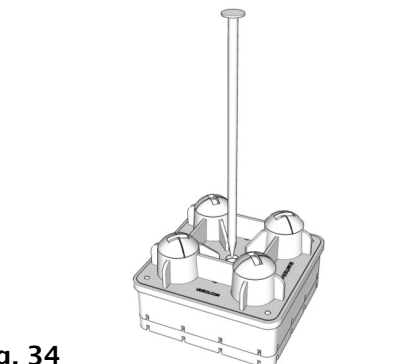

Fig. 34
**IMPORTANT:** If you intend to purchase and install UDECX leveling components; 1" Shims (G) and/or 3" Risers (H), you will need to anchor the Pier (A) and all 1" Shims (G) or 3" Risers (H) with an 18" Spike (J). See Fig. 34
- (NOTE: All Risers (H), Shims (G) and Piers (A) need to be secured with 18" Spikes (J). (Fig 34)